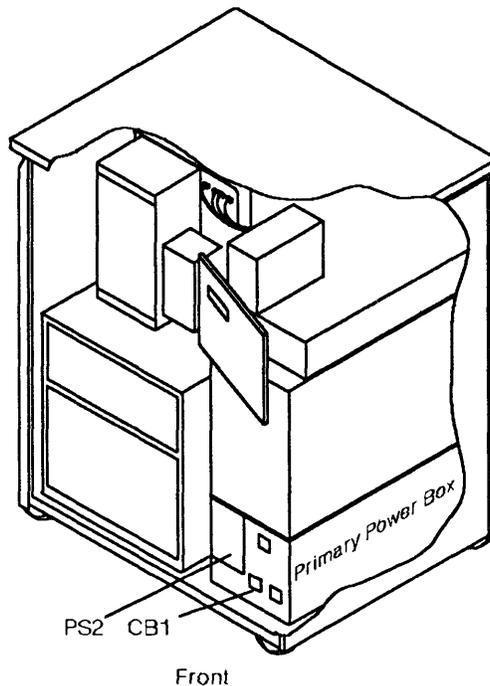

Figure 4-86. Primary Power Box, Power Supply 2 and CB1 Locations
4. Switch CB1 OFF. Refer to Figure 4-86.
6. Locate PS 2 and the primary power box. Refer to Figure 4-86.